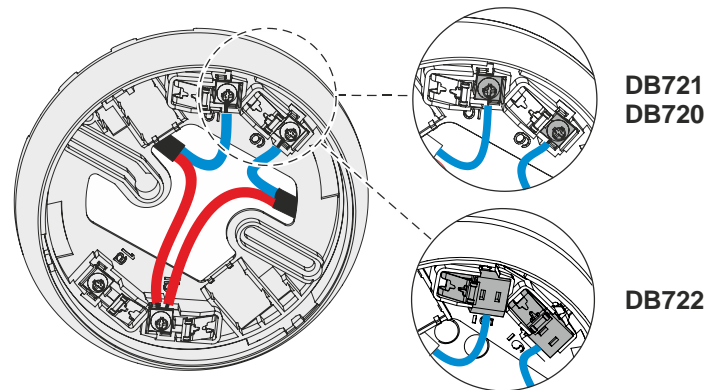

Figure 3: Screw terminals and sockets
Base attachment wet BA721 is for surface-mounted feed lines in humid and cold environments. The cables are inserted using M20 x 1.5 metal cable glands (Fig. 3). Protective cages DBZ1194/FDBZ294 can be installed on 'base attachment wet BA721'.
- Protective cage DBZ1194 (Fig. 3) protects the detector against mechanical damage.
Note the dimensions of the protective cages (Fig. 3) before installing base attachment wet BA721!
- Fig. 3 Installation of protective cage DBZ1194, M20 x 1.5 metal cable gland, designation plate DBZ1193A